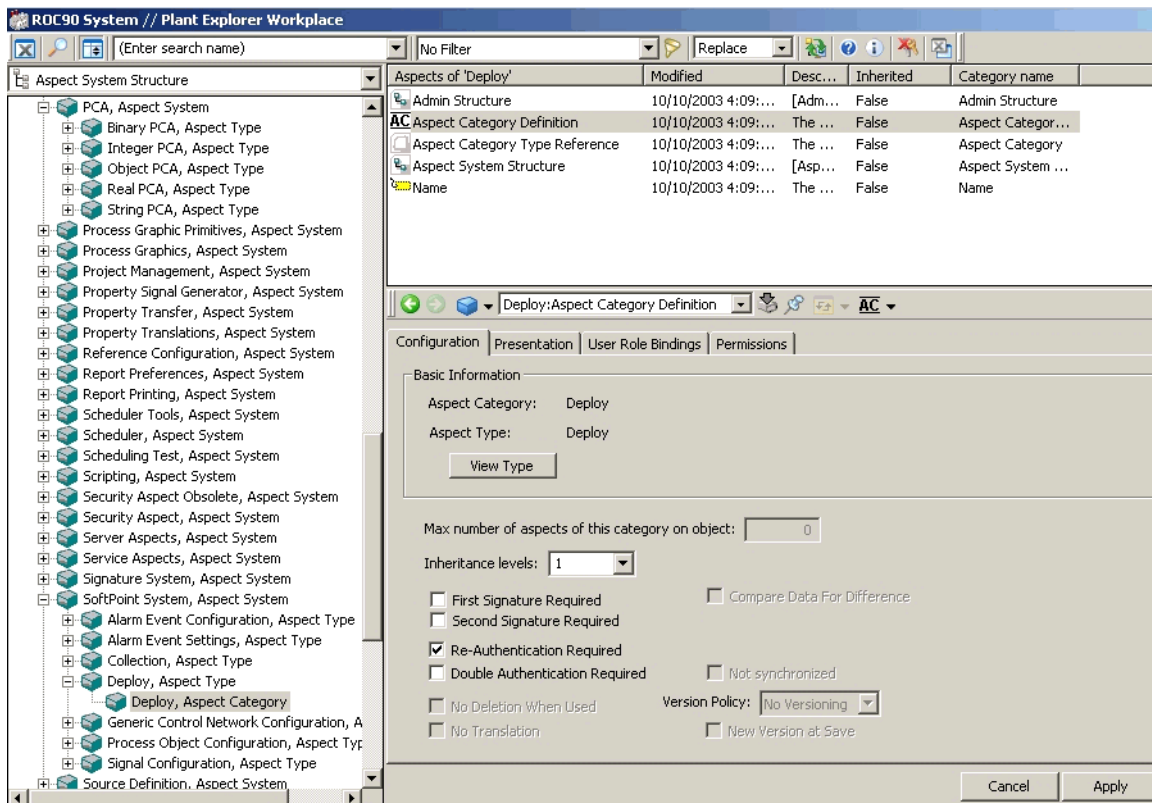

Figure 416. Configuring Authentication
2. Then (reference Figure 416):